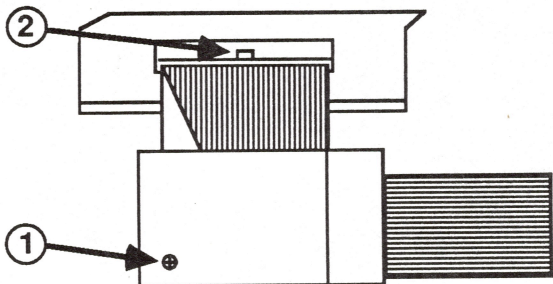
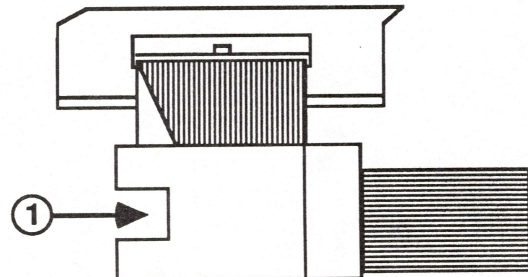

FIGURE 12a
FIGURE 12b
**NOTE:** There are two types of ribbon retainer: one type is held in position by a screw (see Figure 12a, #1), the other by a metal tab which is part of the frame (see Figure 12b, #1). The following procedures refer to screw-fastened retainers. If you are working with the tab-fastened type, just ignore the references to the screw. (The tab-fastened retainer can simply be pulled free and removed.)
4. Push the carriage assembly to the far left. Remove the screw that holds the ribbon retainer in place (see Figure 12a, #1).
5. Insert the flathead screwdriver into the notch on the connector located on the drive PCB (see Figure 12a, #2). Gently turn the screwdriver and the connector will pop out about 1/4 inch.
1. Insert the flexible cable into the connector on the drive PCB (see Figure 12A, #2). Push the connector in.
2. Replace the ribbon retainer and the screw that holds down the retainer for the flexible cable (see Figure 12a, #1).